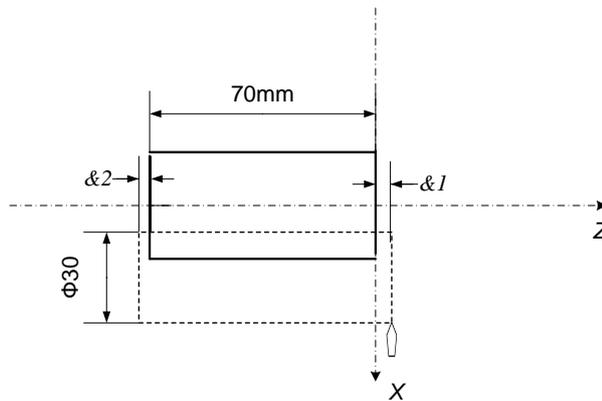

Figure II-10 Straight thread cutting
- **Straight thread cutting (as shown in Figure II-10)**